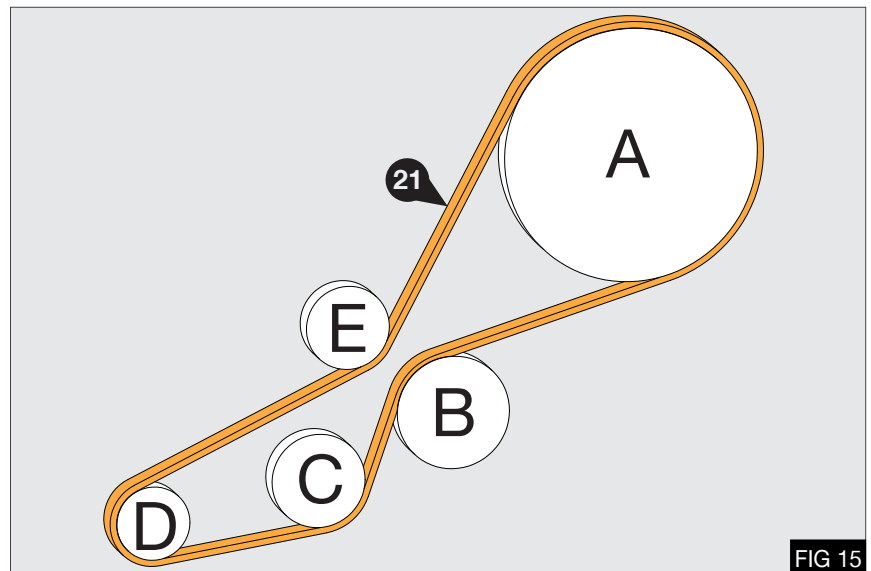

FIG 15
6. Install the drive belt (21) as shown - Fig 15
**Note:** Fit drive belt (21) over automatic tensioner (B) last.